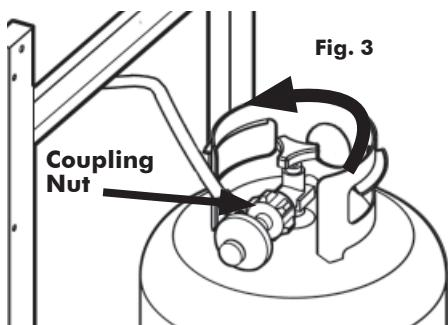

Fig. 3
5. With the regulator hose connected to the LP Gas Cylinder, turn the knob on the Cylinder counterclockwise. (Fig. 3).
- a. If leak appears at either end of hose and regulator assembly, retighten the connection at the leak, but do not over-tighten. (NOTE: Only hand tighten at coupling nut in Fig. 3 shown on previous page) Repeat Leak Test.